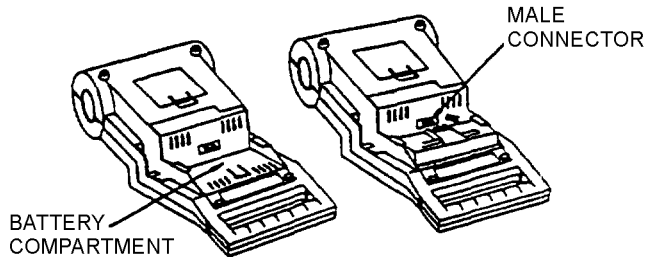

Figure 11. Battery Installation
a. Place the LS2000 upside down on a stable surface with the handle toward the operator to expose the battery compartment (Figure 11)